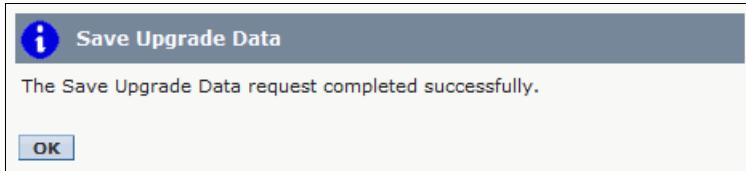

Figure 3-126 Upgrade Data Saved
- After the Save Upgrade Data task completes (Figure 3-126), put the HMC V8.8.4.0 recovery media into the HMC DVD drive, and reboot the HMC.